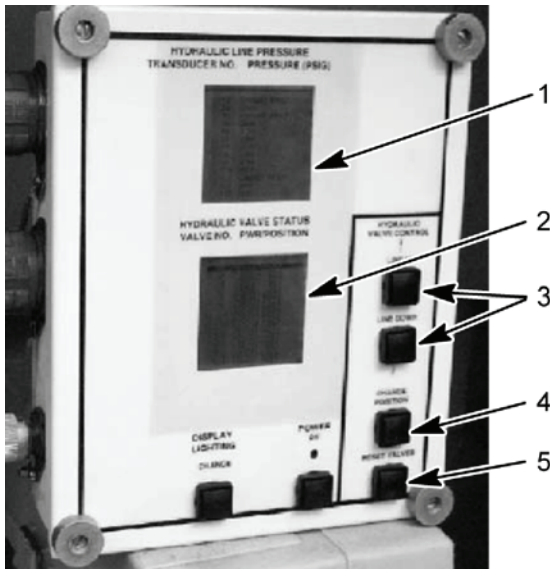
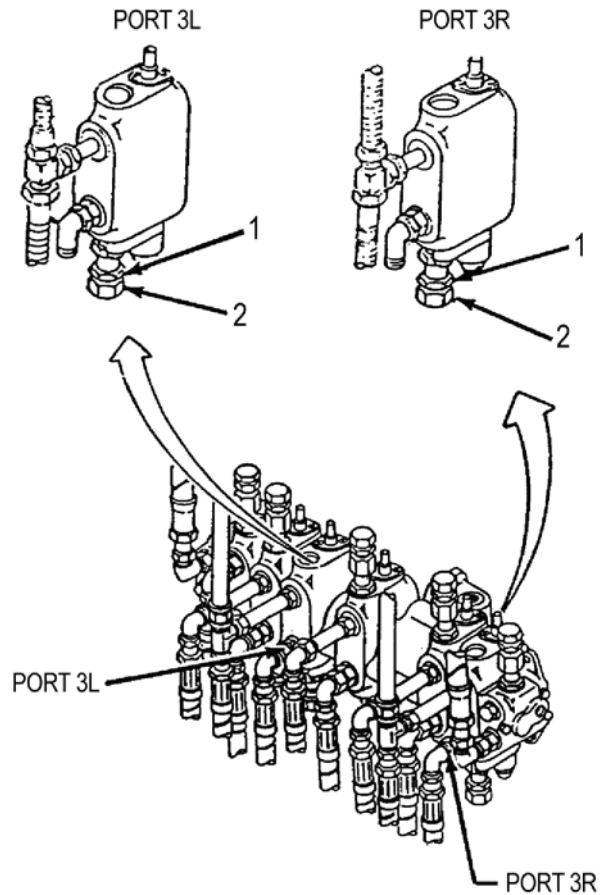

Figure 30. HDC Control Box
Figure 31. Suspension Relief Valve Port 3L and Port 3R
- Reset all HDC solenoid valves by selecting the RESET VALVES button (Figure 30, item 5) on the HDC control box.
- For port 3R relief valve; loosen jam nut (Figure 31, item 1) on port 3R suspension raise/lower relief valve.
- Using LINE UP or LINE DOWN button (Figure 30, item 3), select V15 on the HDC display (Figure 30, item 2). Close V15 on the HDC display (Figure 30, item 2) by selecting the CHANGE POSITION button (Figure 30, item 4) on the HDC control box.
- With right-hand SUSPENSION CONTROL lever still in the RAISE position, and observing transducer T-1 hydraulic pressure on the HDC display (Figure 30, item 1), turn adjusting screw (Figure 31, item 2) clockwise to increase pressure or counter-clockwise to decrease pressure, until desired pressure is indicated.
- Tighten jam nut (Figure 31, item 1).